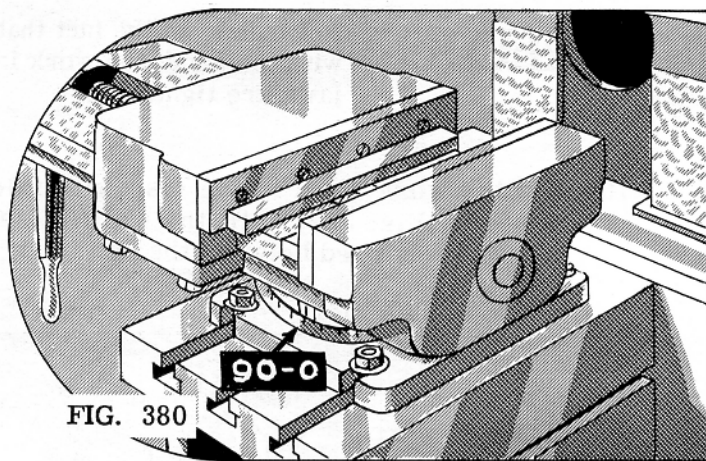

FIG. 380
2. Set the vise parallel with the direction of the stroke (Fig. 380). The zero mark on the vise will coincide with the 90° graduation on the base.
6. Clean the parallels thoroughly and place them in the vise parallel with the jaws. (Fig. 380).